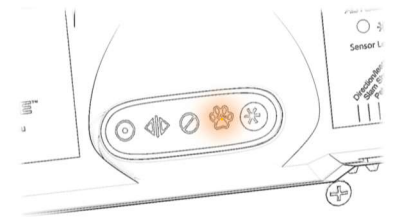

Figure 57: Once programmed the unit will enter Pet Mode.
4. Once the door is staying in the fully closed position with a **solid Orange** mode light (like shown in Figure 57), the pet opening width is programmed.